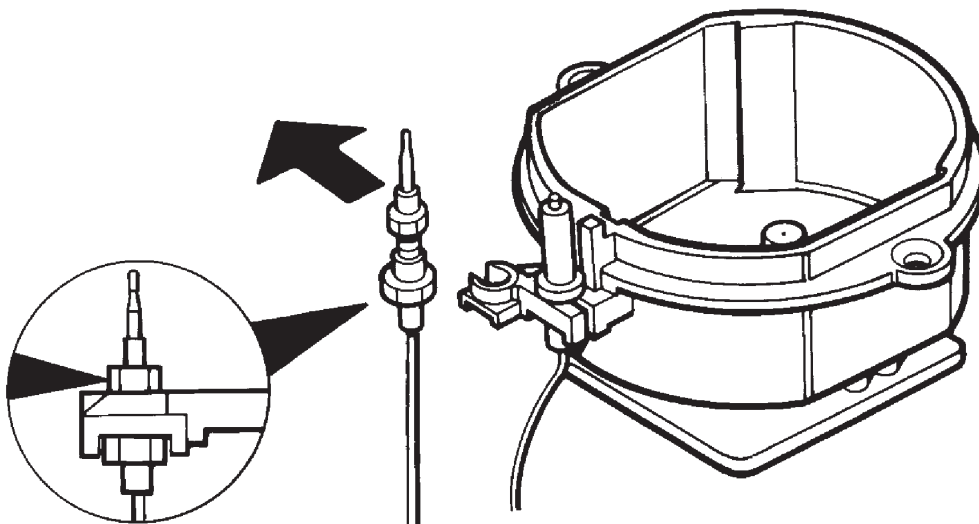

Fig. 9
WHEN RE-WIRING ANY ELECTRICAL COMPONENTS, REFER TO CIRCUIT DIAGRAM FIG.9. BEFORE ELECTRICAL RE-CONNECTION, CHECK THAT THE APPLIANCE IS ELECTRICALLY SAFE.
5. Fit new generator and re-wire as circuit diagram. (See Fig. 9).
10. Re-assemble in reverse order, ensuring that the sealing ring is correctly located between the new tap and the gas rail. Re-wire tap switches as circuit diagram. (See Fig. 9).
E. TO REMOVE THERMOCOUPLE (SEE FIG. 9)